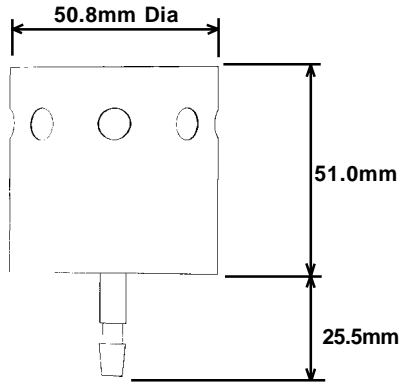

Figure 3 Weather Protection Housing
- b. Weather Protection Housing (Figure 3).